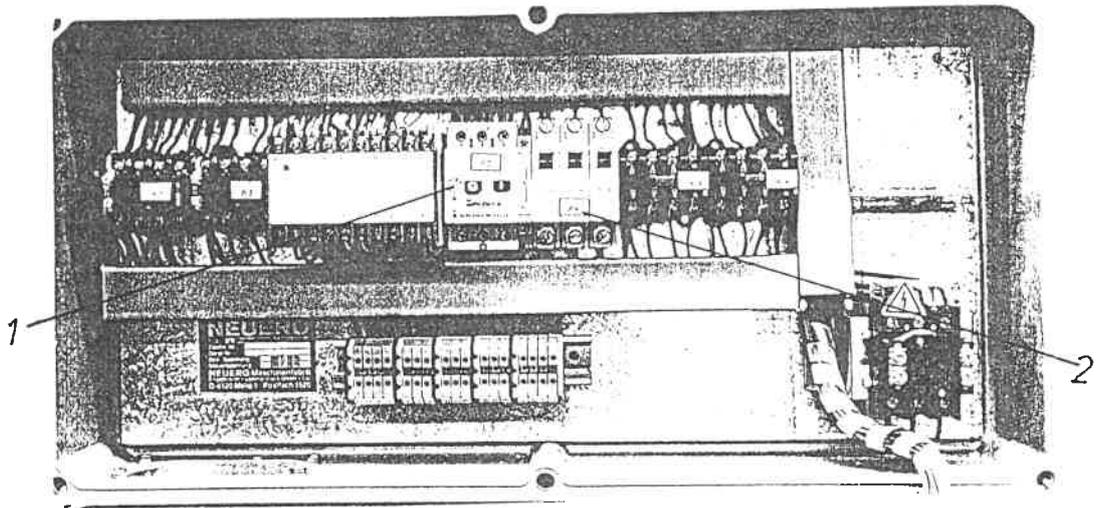

Fig. 1.3
- 1.9. Set the protective motor switch (Fig. 1.3/1) to approximately 5.3 A.
- The protection switch (Fig. 1.3/1) has tripped
- Cut-outs (Fig. 1.3/2) have tripped. If they should trip again immediately after switching on there is a fault present which can only be cured by an electrician.